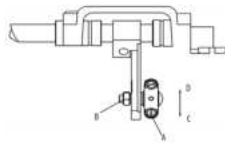
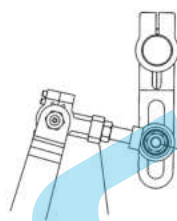

图18 (Fig.18)
图19 (Fig.19)
1. 取下上盖, 拧松连杆(A)上的螺帽(B)。 (图18)
3. 微调时, 放松螺帽(A)将连杆(B)上下移动, 往上量多。(图19)
1. Take off cover and Release nut (B) on connector (A). (Fig. 18)
2. Move connector (A) back and forth for more or less feeding length ,toward (C) direction reduce feeding length.
3. For micro adjustment ,release nut (A) and move connector (B) upward for longer and downward for shorter feeding length respectively . (Fig. 19)